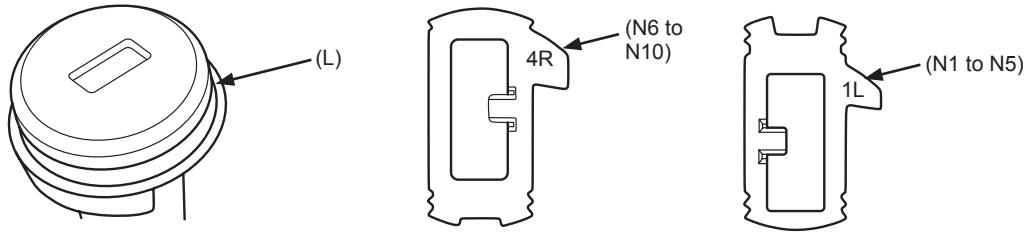

FIGURE 2.1
2. Take the cylinder assembly (B) and verify O-Ring (L) presence (Refer to Figure 2.1). Select the required tumblers (N1-N10) according to the key cut depths. For example, if the key cut depths codes are 5433124423, then use N8 for station 10, use N2 for station 9, N4 for station 8, N9 for station 7, N7 for station 6, etc. (Refer to Figure 2.2). Note that there are Right (N6 - N10) and Left (N1 - N-5) side tumblers.